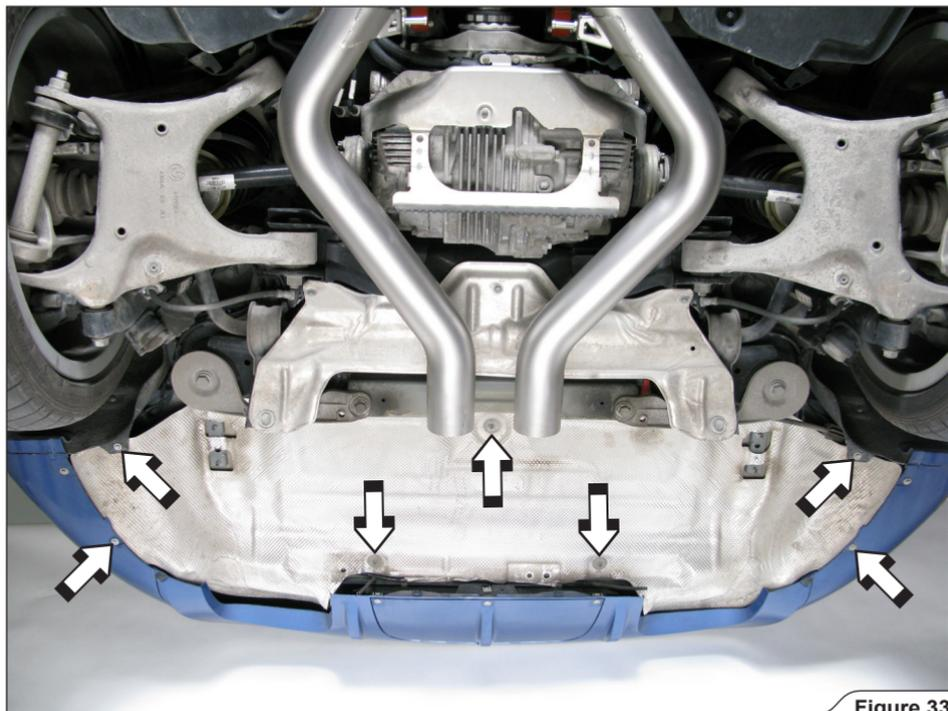

Figure 33
12. Dismount the original aluminium muffler heat shield (**Figure 33**).